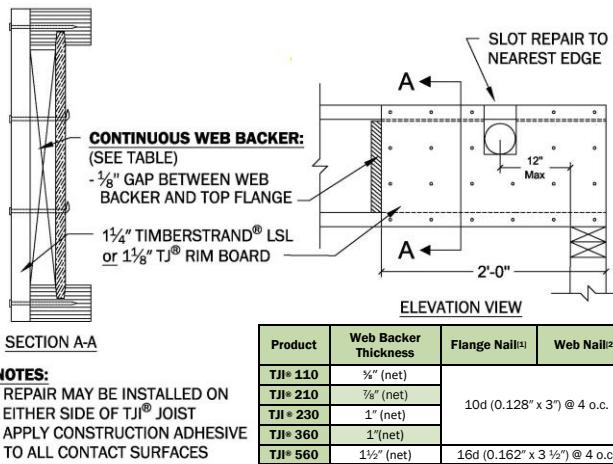

Figure 1: Repair detail for holes located within 12" of end bearing.
- [1] Span table and Figure 1 apply only to holes located within the first 12" of the joist end bearing. They DO NOT apply to holes located closer to intermediate bearings than allowed in Table B of TJI® Joist Specifier's Guide (TJ-4000).
The repair option in Figure 1 is not valid for any of the following conditions.